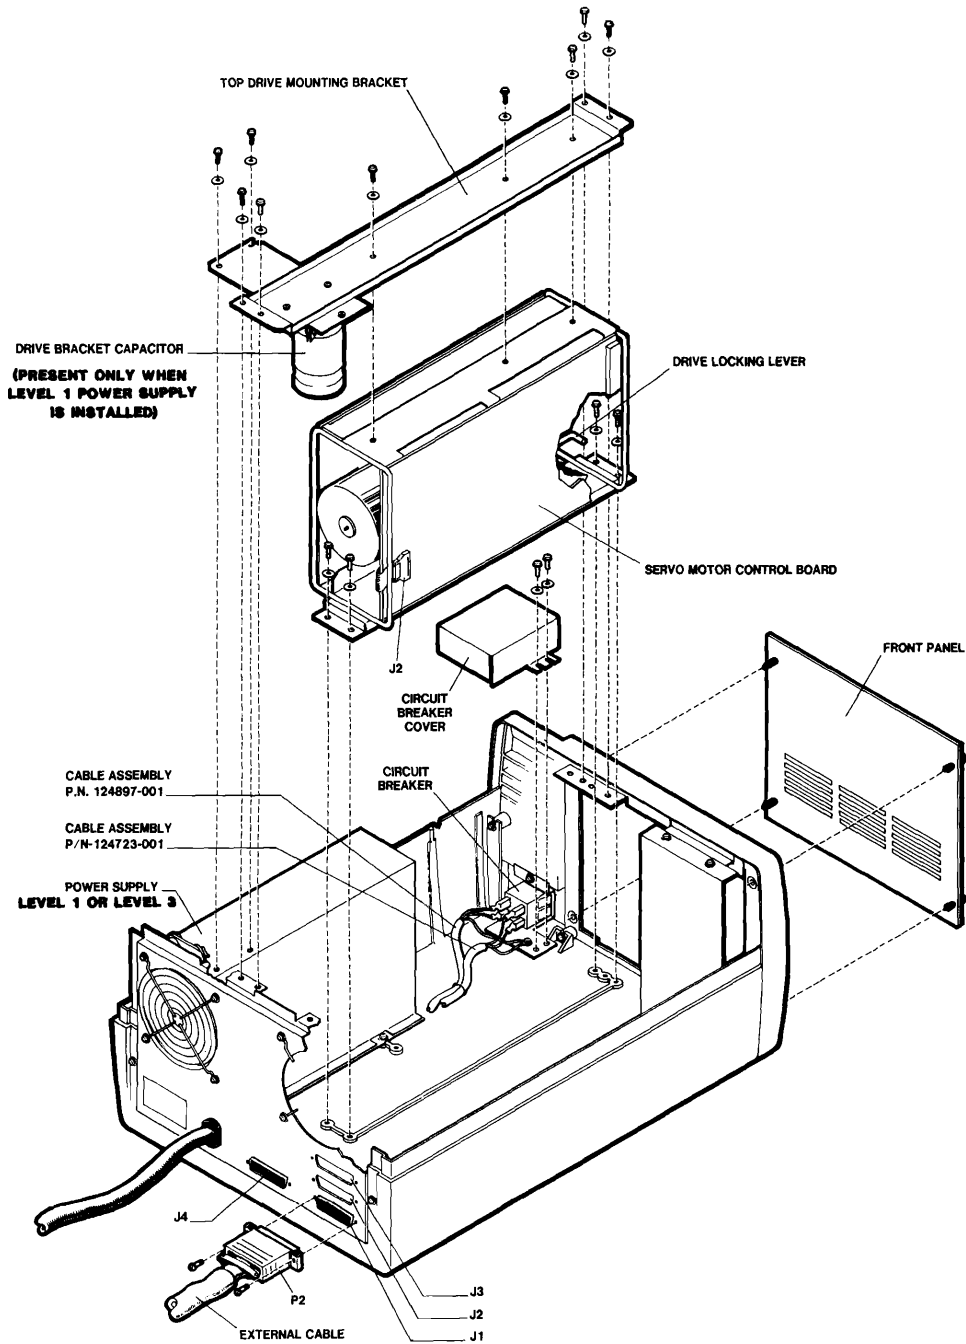

Figure 4-3. Drive Assembly Removal
3. Refer to figure 4-3 and remove the nine screws from the top drive mounting bracket.
2. Place the drive assembly in the chassis frame (refer to figure 4-3 for proper alignment) and tighten the four mounting screws to secure the drive in the chassis.